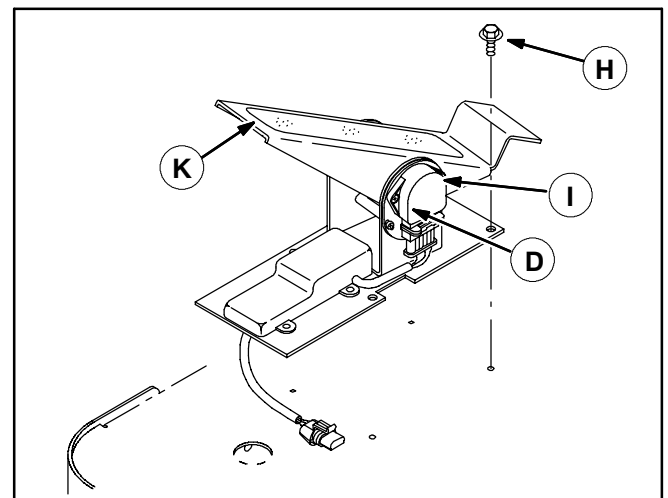

FIG. 3
2. Remove the four screws (H) and then the pedal assembly (K). Refer to Fig. 3.
19. Reinstall the pedal assembly (K) on to the machine with the four screws (H). Refer to Fig. 3.